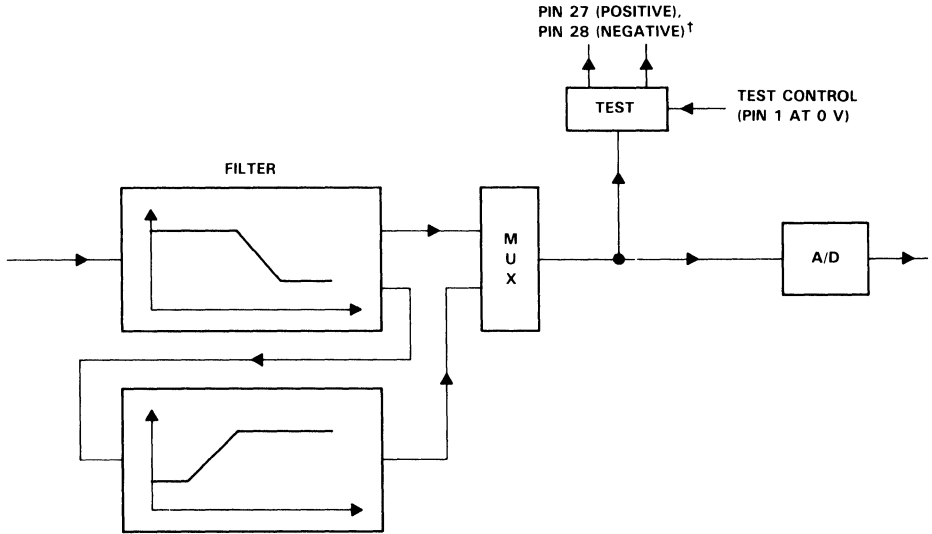

FIGURE 1. BANDPASS OR LOW-PASS FILTER TEST FOR RECEIVER SECTION
In normal operation, the nonusable (NU) pins are left unconnected. These NU pins are used by the factory to speed up testing of the TLC32045 Analog Interface Circuit (AIC). When the device is used in normal (non-test mode) operation, the NU pin (pin 1) has an internal pull-down to  $-5$  V. Externally connecting 0 V or 5 V to pin 1 puts the device in test-mode operation. Selecting one of the possible test or NU modes is accomplished by placing a particular voltage on certain pins. A description of these modes is provided in Table 2 and Figures 1 and 2.